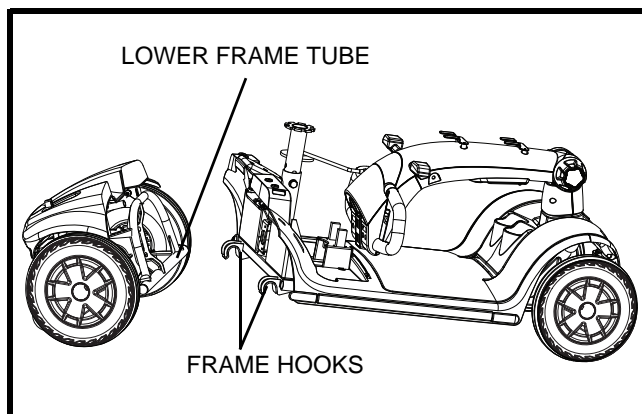

Figure 28. Frame Separation
4. Lift the front section up until the frame hooks of the front section separate from the rear section. See **figure 28 or 28A**.
5. Slowly separate the two sections. See **figure 28 or 28A**.
1. Position the front and rear sections of your scooter as shown in see **figure 28 or 28A**.
2. Use the frame release lever to lift the front section as you align the frame hooks of the front section with the lower frame tube of the rear section. See **figure 28 or 28A**.